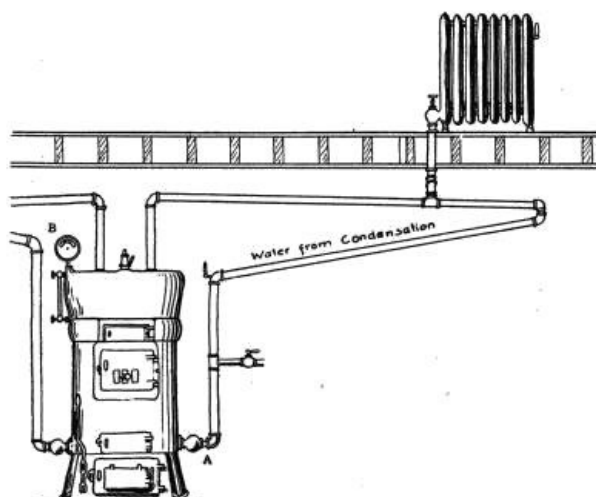
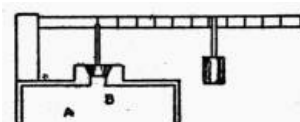
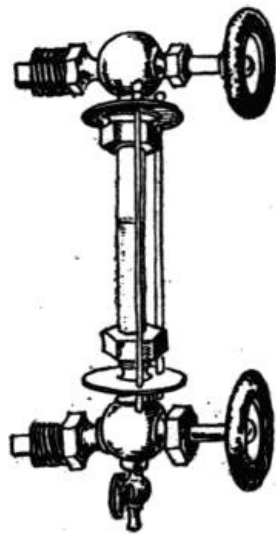

FIG. 35. Steam furnace.
FIG. 36. Safety valve.
FIG. 37. Water gage for steam plant.
70. Equipment for Steam Heat. A steam-heating system consists of a boiler, a fire pot, pipes from the boiler leading to the radiators, and radiators (Fig. 35). On some systems, return pipes are provided to carry condensed steam or water back to the lower part of the boiler. A safety valve (Fig. 36) is attached to steam-heating systems instead of an expansion tank. This keeps the pressure of the steam in the boiler from becoming too great, and thereby prevents an explosion. The pressure gage (*B*, Fig. 35) must be set, and, when set, should only be changed by a person understanding it. Build and manage the fire for a steam boiler the same as for any stove or furnace. Keep water in the boiler at 212 degrees Fahrenheit, so steam may form, for without it, the radiators will not be heated. Small valves are attached to most steam radiators. Their purpose is to let out air, which accumulates in the radiator. As soon as the steam begins to come into the radiator, it forces the air out of the valve. When it reaches the valve, the heat in the steam causes part of the valve to expand and close the outlet, which is small. When the radiator is hot, steam should not escape, provided the valves are in good working order. There is a gage (Fig. 37) furnished with each boiler which shows how much water is in it.
71. Steam Gages. Steam gages (B, Fig. 35) are devices for indicating the pressure of steam within an inclosure. They are a kind of spring balance. When the pressure of the steam increases, it pushes up on the spring, and this turns the hand of the indicator, which shows the number of pounds of pressure that the steam is exerting on the inside of the boiler or container.
72. Safety Valve. A safety valve (Fig. 36 and A, Fig. 38) consists of a small opening to a boiler over which is a weight. When steam is developed until it makes enough pressure on the inside of the valve to raise this weight, some of the steam escapes, thus lowering the pressure on the inside until the weight falls back into place. Never let anything interfere with the action of safety valves.